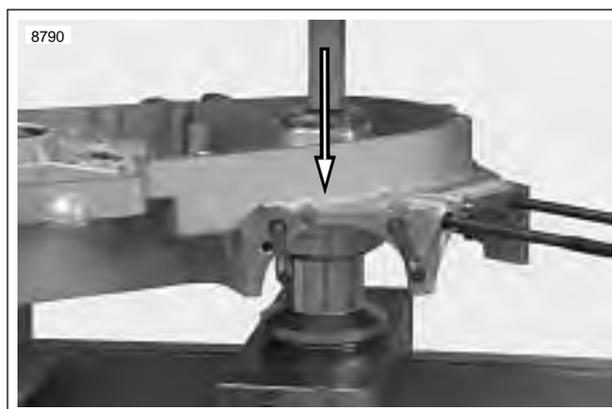

Figure 3-139. Direction of Bearing Removal From Left Crankcase
- See Figure 3-139. Using CRANKCASE BEARING REMOVER/INSTALLER with ADAPTER (Part No. B-45655, HD-42720-2 and HD-46663) press left main bearing out of the left crankcase half.